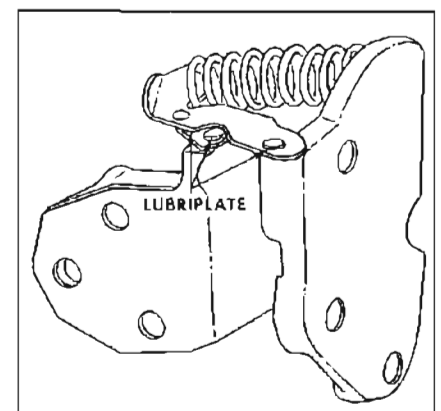

Figure 1-15—Door Hold Open Lubrication
- 1. Front and Rear Door Hinge Hold Open - Wipe off dirt and apply a thin coat of Lubriplate or equivalent at points indicated in Figure 1-15.